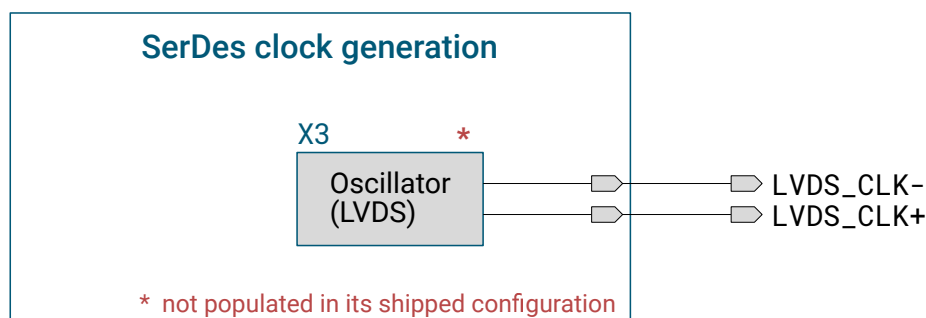
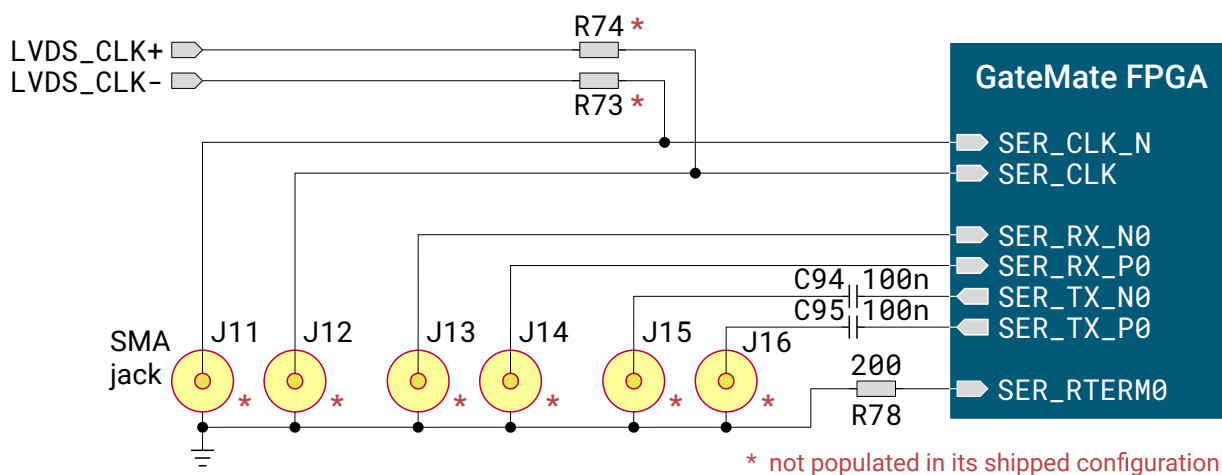

Figure 3.13: Optional SerDes clock (LVDS clock oscillator)
Figure 3.18: Optional SerDes interface
Finally, a low-voltage differential signaling (LVDS) clock oscillator can be populated to generate a Serializer / Deserializer (SerDes) input clock as shown in Figure 3.13. Please note, that also series resistors R73 and R74 have to be populated (see Figure 3.18 on page 38).
The evaluation board is prepared to offer a SerDes interface. Figure 3.18 shows, that the SMA jacks J13 .. J16 must be populated from the user to get access to the CCGM1A1 SerDes interface.
2. An on-board LVDS oscillator and the series resistors R73 and R74 are populated (see also Figure 3.13 on page 31).